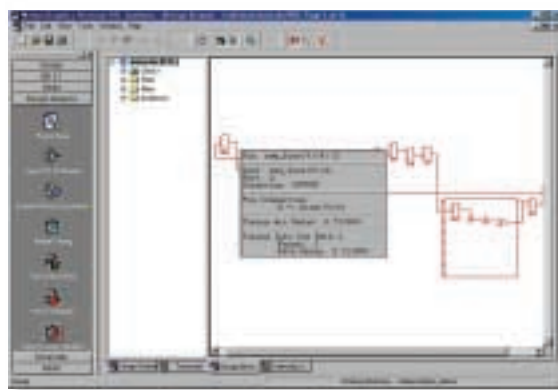

Figure 2 - Critical path schematic
- Powerful schematic viewing with schematic-fragment-generation capabilities and multiple critical-path viewing (Figure 2).